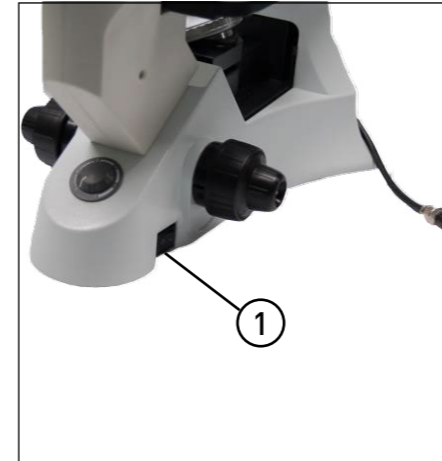

FIGURE 12
2.2.9 Connecting the power cord (Fig. 12, 13 & 14)
2.2.10 Replacing the fuse (Fig. 12 & 13)